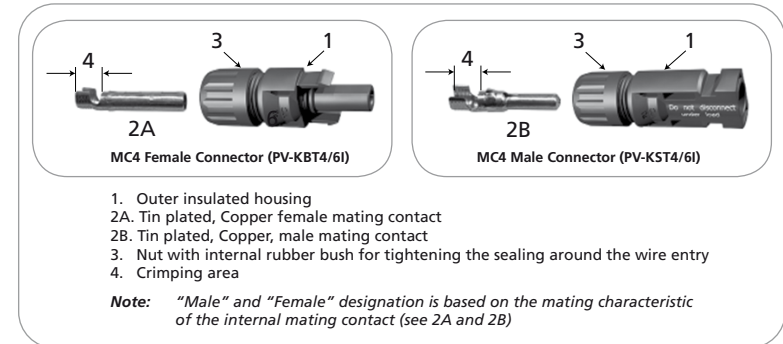

Fig. 1. MC4 Male and Female Connectors
MC4 Multi-Contact Connectors (Fig. 1)
Construction of MC4 Connectors (See Fig. 1)
The Male and Female MC4 Connectors consist of the following components (See Fig. 1).
- Outer insulated housing with locking arrangement (1 of Fig. 1)
- Tin-plated Copper metallic male & female mating contacts (2A and 2B of Fig. 1). The wire is placed in the crimping area (4 of Fig 1) and crimped with a special crimping tool
- Nut & internal rubber bush (3 of Fig. 1). When the nut is tightened, the internal rubber bush is compressed around the outer jacket of the cable, providing water-tight sealing.
Installation procedure (See Fig. 1 and Fig. 2)
2. Insert the bare conductor into the crimping area (4 of Fig. 1) of the metallic mating contact and crimp using a special purpose crimping tool. The end may be soldered if the crimping tool is not available. Take care that the solder does not flow beyond the crimp area.
4. Tighten nut (3 of Fig.1) so that the rubber bush is compressed around the wire entry to ensure proper sealing.